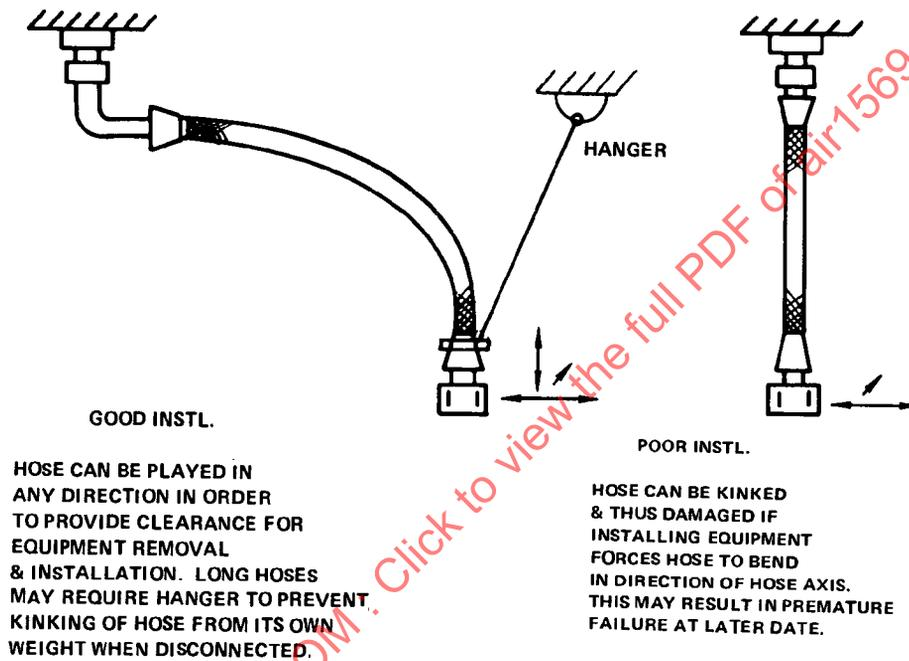

FIGURE 9
- 5.2.6 Service Disconnect Hoses: Hoses to equipment that require frequent removal should be installed in a manner to give maximum protection from damage during this operation. The shape of the hose should allow for non-operating motions involved in removal or installation of the units. A hanger can be installed to prevent kinking the hose when pulling it out of the way. (See Fig. 9).